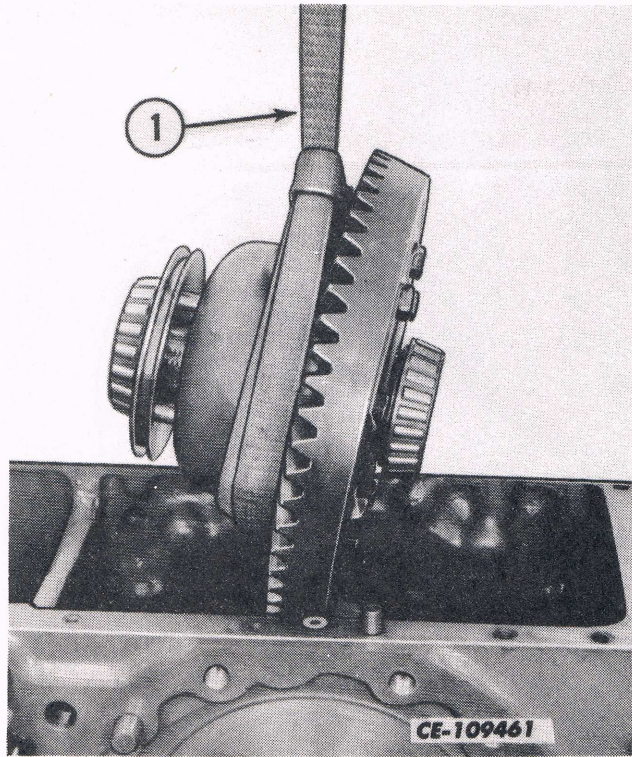

Fig. 6
11. Attach sling PLT-120-1 (1) and hoist to the differential assembly. Remove carrier mounting capscrews. Install jack screws and remove carriers with shims. Keep the shims with the carriers for reassembly. See Fig. 6.
12. Raise the differential assembly out of the housing. Refer to Fig. 6.